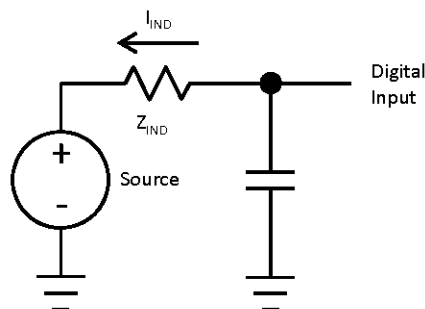

Figure 2. 5 V Tolerant Input IIND Parameter
5. Examples calculated using  $V_{IL}$  relation,  $V_{DD}$ , and max  $I_{IND}$ :  $Z_{IND} = V_{IL} / I_{IND}$ . This is the impedance needed to pull a high signal to a level below  $V_{IL}$  due to leakage when  $V_{IL} < V_{IN} < V_{DD}$ . These examples assume signal source low = 0 V. See Figure 2.